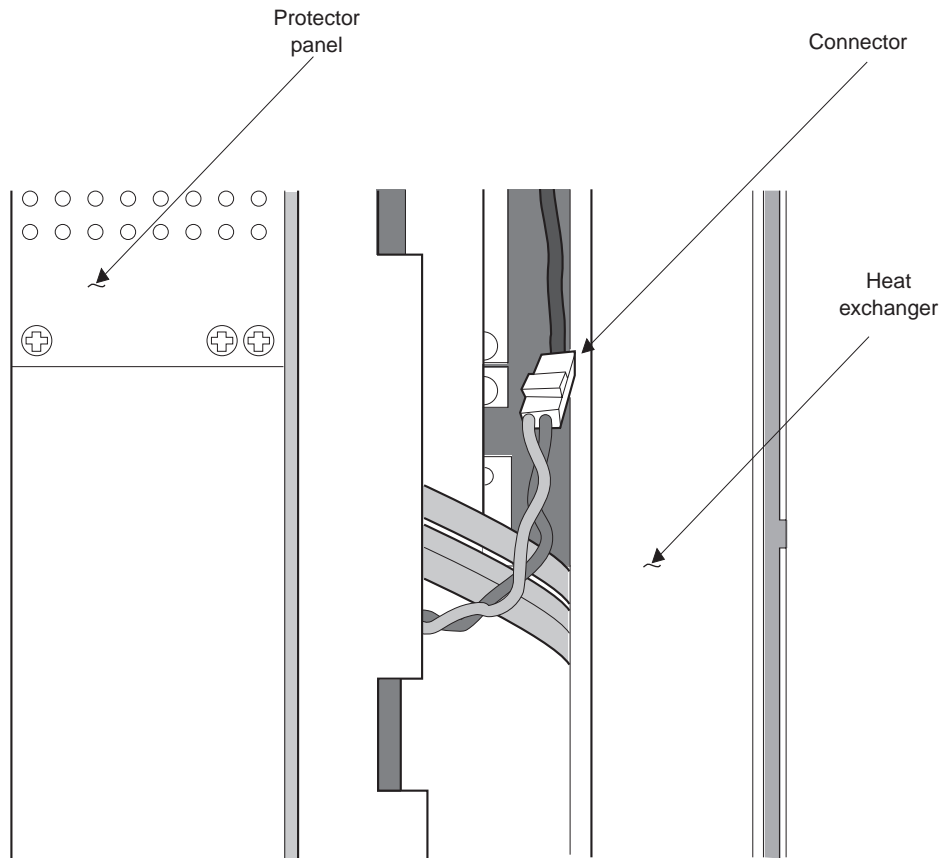

Figure 49. Heat Exchanger Bottom Fan Connector
- 1 Locate and disconnect the bottom fan power connector as shown in Figure 49 on page 62.